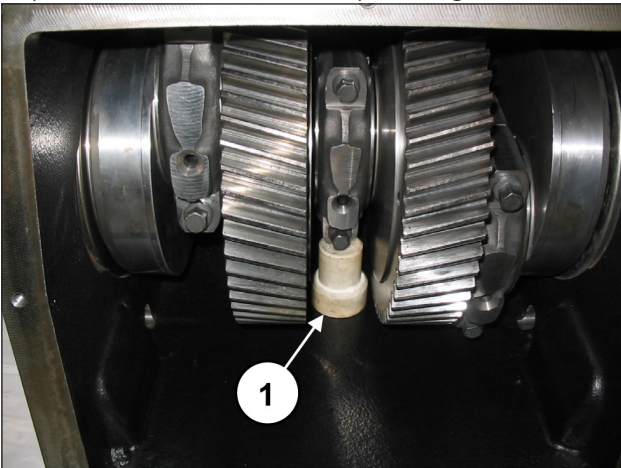

Fig. 12
Insert a shim under the shank of the central connecting rod, to stop the rotation of the bend shaft (pos. ①, Fig. 12).